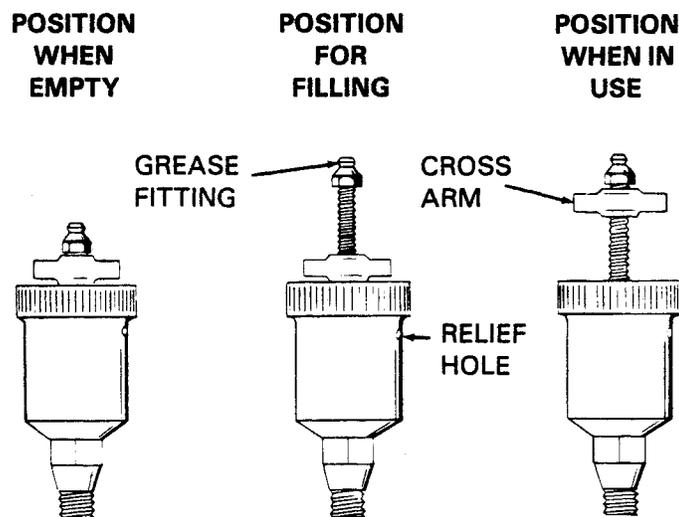

Figure 3. Automatic Lubricating Grease Cup
Before removing the seal assembly, turn the cross arm on the seal grease cup (11) clockwise until it rests against the cover (see figure 3). This will prevent the grease in the cup from escaping after the seal is removed.
Before starting the pump, fill the seal grease cup through the grease fitting with a good grade of No. 2 pressure gun grease until grease escapes from the relief hole. Turn the grease cup arm counterclockwise until it is at the top of the stem; this will release the spring to apply grease to the seal (see figure 3).